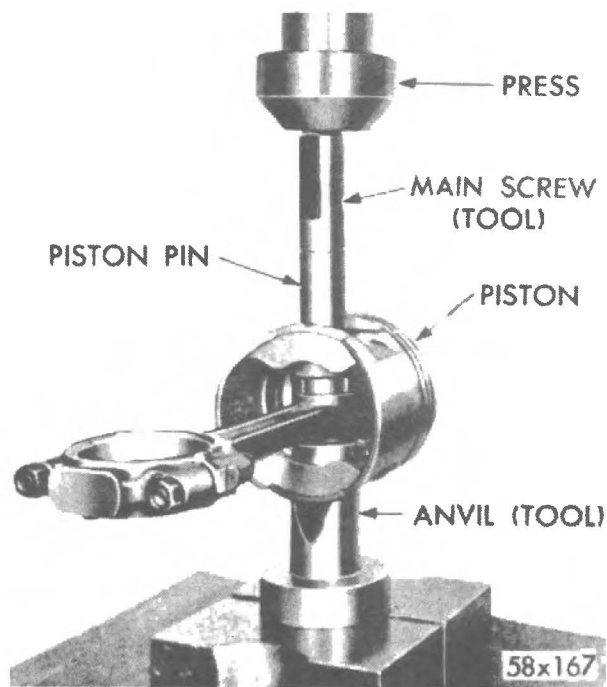

Fig. 37 - Installing piston pin (Tool CA-3724).
(8) Install the main screw and piston pin in the piston (Fig. 37).
(9) Install the nut on main screw to hold assembly together. Place assembly on a press (Fig. 37).